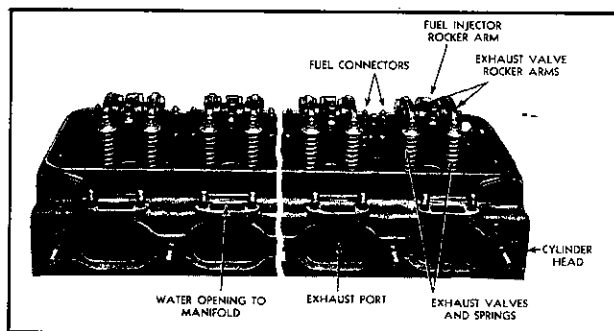

Fig. 1—Cylinder Head Assembly
**Engine Timing**—When the engine is properly timed, the marked teeth on the timing gears will be matched together as shown in Fig. 1, Sec. 7.
**Engine Balance**—Both rotating and reciprocating forces are completely balanced in 71 series engines. The eccentric rotating masses of the crankshaft and connecting rod are balanced by counter-weights on the crankshaft cheeks. The reciprocating masses (the piston and part of the rod) produce an unbalanced couple by virtue of an arrangement on the crankshaft in which reciprocating masses, though equal, are not opposite. This unbalanced couple, which tends to rock the engine from end to end, is balanced by an arrangement of rotating counter-weights, which produce a couple equal and opposite in magnitude. Consequently, the engine will operate smoothly and in perfect balance throughout the entire speed range. The balance weights consist of two eccentric weights at each end of the engine, as shown in Fig. 1. Each set of weights rotate in opposite directions with respect to each other. When the two weights at either end of the engine are in a vertical plane, their centrifugal forces are in the same direction, and oppose the unbalanced couple. When in a horizontal plane, the centrifugal forces of these balance weights are opposite, and therefore cancelled. The front balance weights are eccentric in a direction opposite to the rear balance weights; therefore rotation will result in the desired couple, effective only in a vertical plane. The balance weights at the rear end of the engine are integral with the camshaft and balancer shaft drive gears. The weights at the front end consist of eccentric slugs. On six cylinder engines only, these weights are flexibly mounted, and spring loaded to serve also as torsional vibration dampers. The weights in the camshaft and balancer shaft gears are an integral part of these gears for the three cylinder engines; one crescent-shaped weight is bolted to each gear for the four cylinder engine, and two small, square weights are attached to each gear for the six cylinder engine.